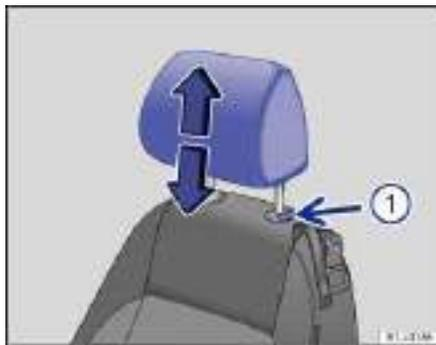

Fig. 46 Adjusting the front head restraints.
- Pull the head restraint up in the direction of the arrow, or push it down while pressing the button ⇒ fig. 46 (1) ⇒ **⚠**.